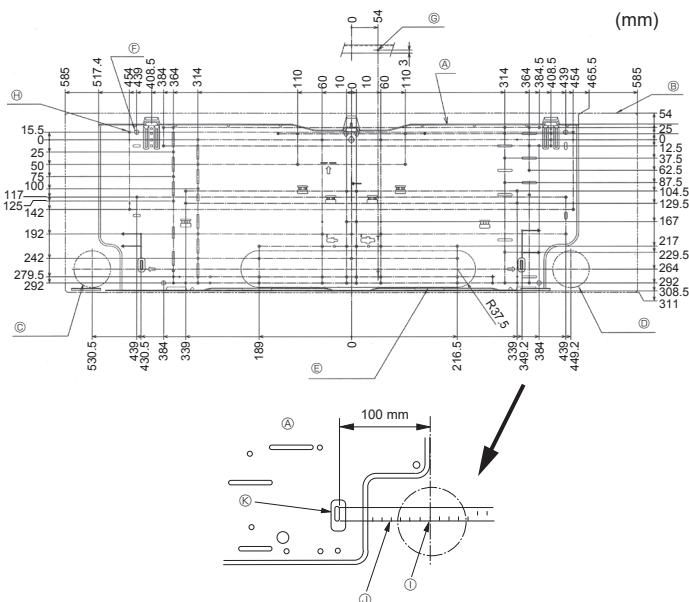

Fig. 3-2
①	Mount board	1	Fix at the back of the unit
②	Tapping screw 4 x 25	7
③	Felt tape	2
④	L-shaped connection pipe	1
⑤	Charge nut	1
⑥	* Wireless remote controller	1
⑦	* Remote controller holder	1
⑧	* Alkali batteries (size AAA)	2
⑨	* Tapping screw 3.5 x 16	2
⑩	Spacer	1	Make use of packaging material
3.2. Installing the wall mounting fixture (Fig. 3-2)